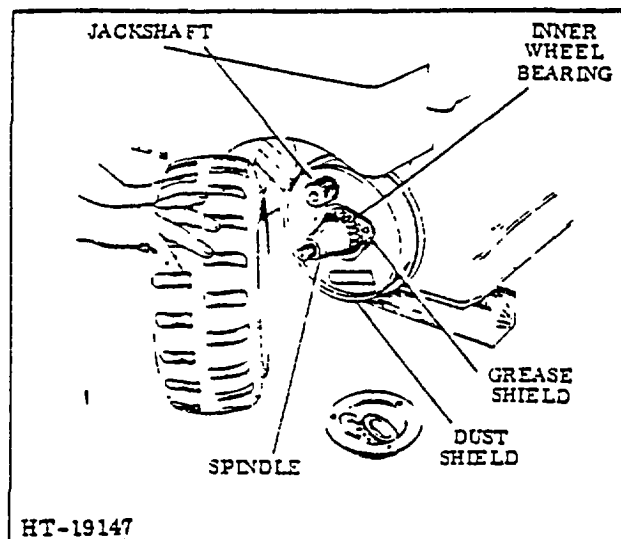

Figure 6. Removing Drive Wheel
- c. After the outer wheel bearing has been removed, the wheel can be removed. (See Figure 6.)